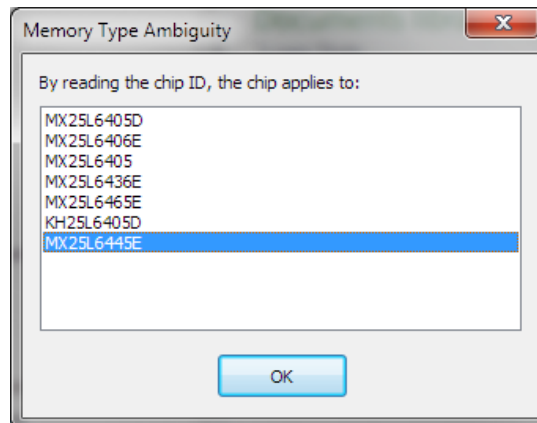

Figure 3-6. Chips available from the manufacturer.
- If a list of flash devices is displayed, select the Macronix\* chip MX25L6445E or the Winbond\* chip W25Q64BV (see Figure 3-6), as appropriate for the SPI device on your motherboard.